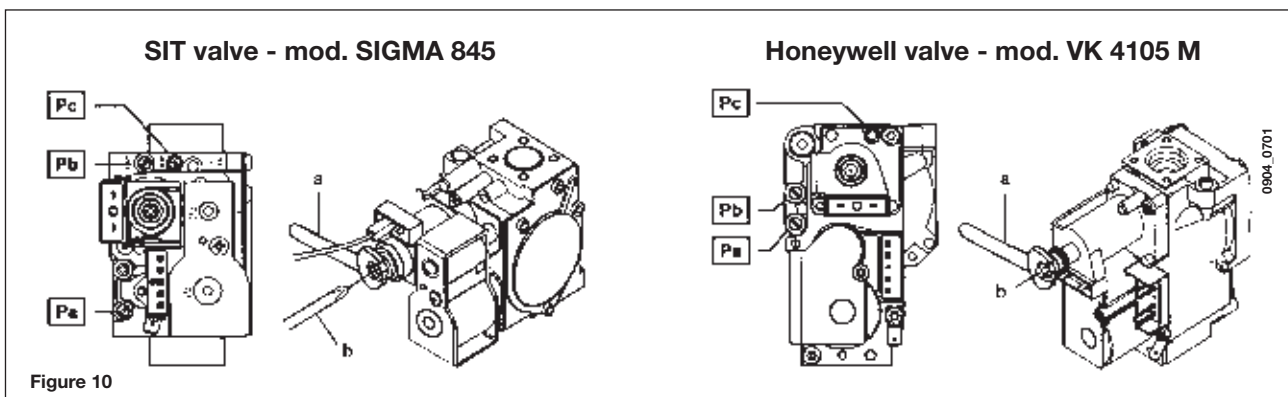

Figure 10
The procedure for calibrating the pressure regulator varies slightly according to the type of gas valve fitted (**HONEYWELL** or **SIT**, see figure 10).
- connect the positive pressure test point of a differential pressure gauge (possibly water-operated) to the gas valve pressure test point (**Pb**) (Figure 10). Only for models with sealed chambers, connect the negative pressure test point of the pressure gauge to a “**T**” fitting in order to join the boiler adjustment outlet, the gas valve adjustment outlet (**Pc**) and the pressure gauge. (The same measurement can be made by connecting the pressure gauge to the pressure test point (**Pb**) after removing the front panel of the sealed chamber). Measuring burner pressure using methods other than those described could lead to incorrect results as the low pressure created by the fan in the sealed chamber would not be taken into account.
- make sure that the dynamic inlet pressure of the boiler, measured at the gas valve pressure test point (**Pa**) (Figure 10) is correct (37 mbar for propane or 20 mbar for natural gas).